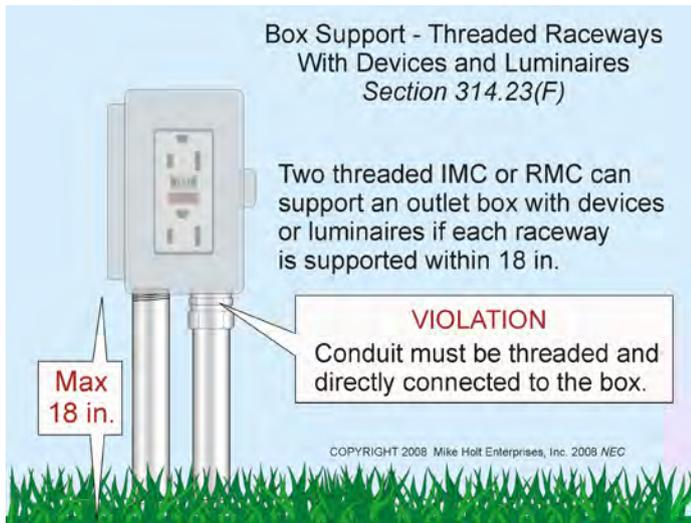

Figure 314-17
(F) Raceway—Boxes and Conduit Bodies with Devices or Luminaires. Two intermediate metal or rigid metal conduits, threaded wrenchtight into the enclosure, can be used to support an outlet box containing devices or luminaires, if each raceway is supported within 18 in. of the box. **Figure 314-17**